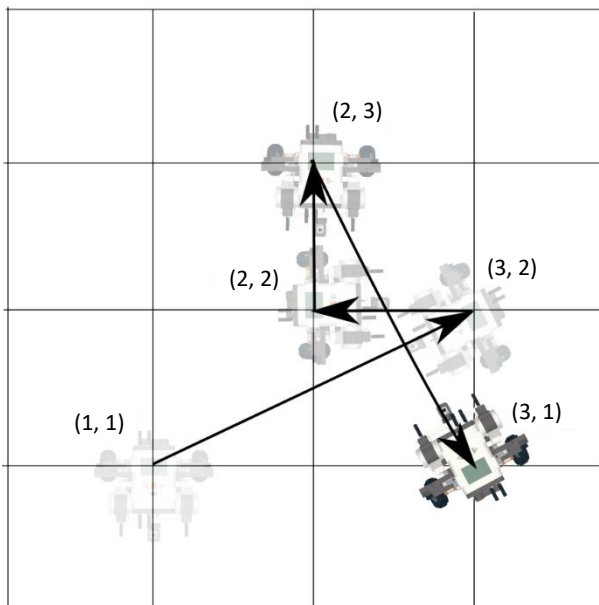

Figure 2. Example robot path 1.
2. Write a program to travel through a set of waypoints. For example, **Figure 2** shown below follows (3, 2), (2, 2), (2, 3), and (3, 1) in order.
1. Program the robot to travel to waypoints (3, 2), (2, 2), (2, 3), and (3, 1) as in **Figure 2**.